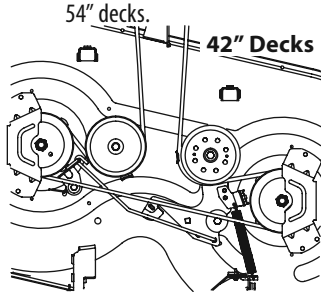
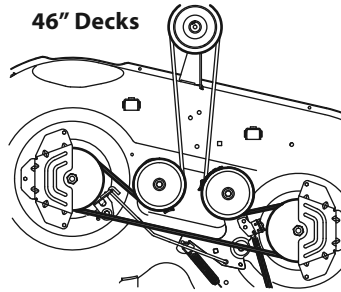
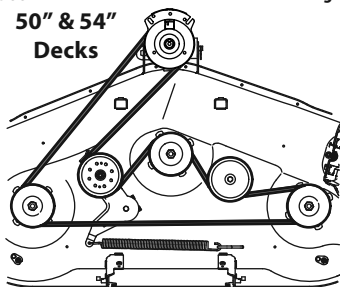

Figure 53
Figure 54
Figure 55
- Route the new belt as shown in the applicable figure on the following pages. See Figure 53 for 42" decks, Figure 54 for 46" decks and Figure 55 for 50" & 54" decks.